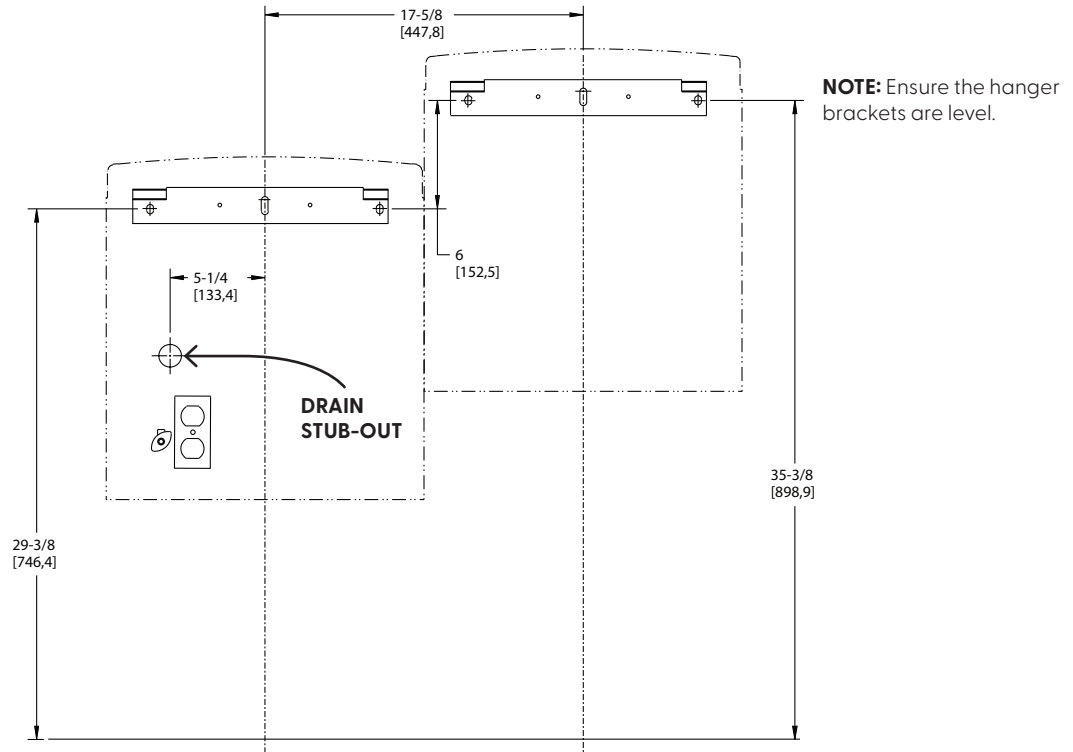

Figure 1.
2. Install the hanger brackets (see **Figure 1.**) that came attached to unit frames with 2x appropriate wall anchors (not provided), for the installation location. Refer to the rough-in Diagram on page 3 for a left side high orientation.